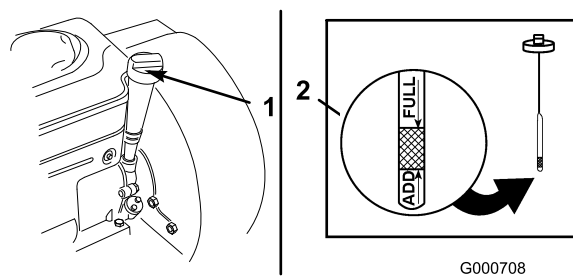

Figure 15
3. Clean around the oil dipstick (Figure 15).
4. Pull out the dipstick and wipe the metal end clean (Figure 15).
5. Slide the dipstick fully into the dipstick tube and tighten it (Figure 15).